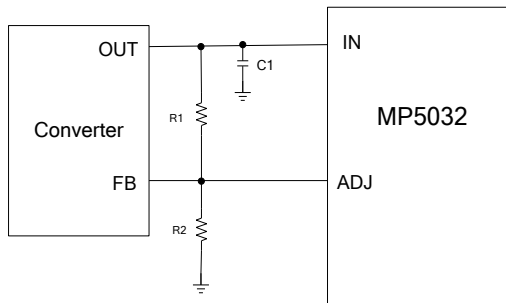

Figure 3: ADJ Configuration
Figure 3 shows the typical ADJ usage. The ADJ sink current capability is 500µA. The feedback current through R1 must be less than 500µA. Calculate R1 with Equation (1):